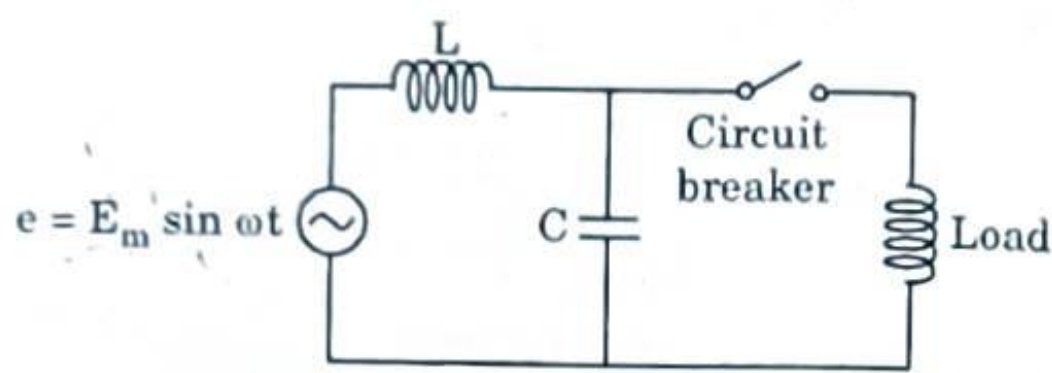

Fig. 4.11.1.
- Consider the circuit shown in the Fig. 4.11.1. Let the arc current be i when it is chopped down to zero value.